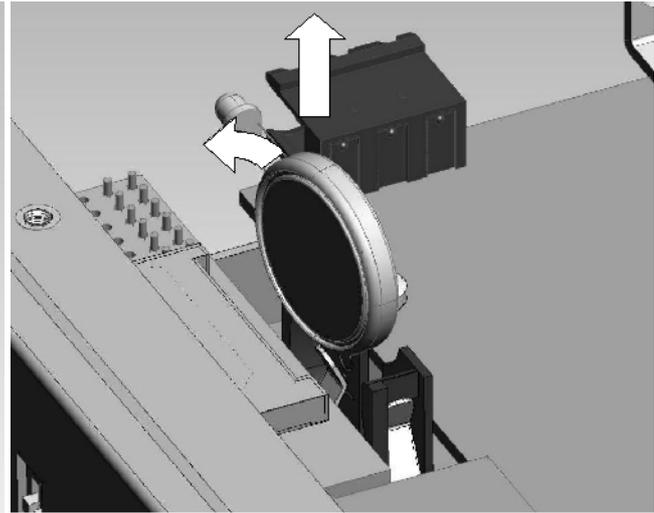

*Figure 11: Lid opening*
- Take out the lid as shown in Figure 11 paying attention with the power connector